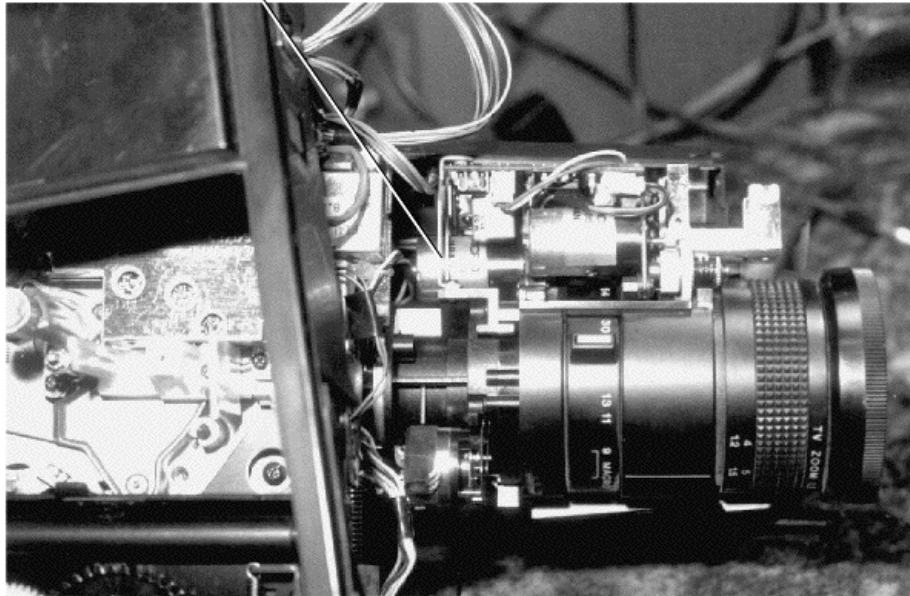
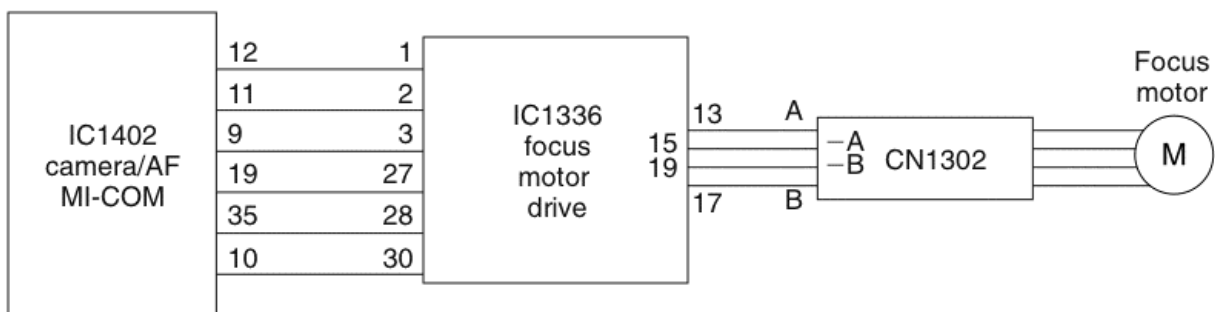

FIGURE 34-17 The focus control motor is located in the lens assembly of a VHS camcorder.
FIGURE 34-18 The 8-mm autofocus circuits.
Canon 8-mm auto focus circuits The auto focus drive signals start at the camera/ auto focus (AF)/Mi-Com processor IC1402 (Fig. 34-17). IC1402 provides a focus stop, focus power saver, focus CW and H/CCW, focus pulse, and focus reset signals to the focus motor drive IC1336. Inside IC1336 consists of a decoder and drive circuits. IC1336 drives the focus motor with an A and B signal from pins 13 and 17 from the focus motor drive IC. Pins 15 and 19 of IC1336 provide $-A$ and $-B$ focus drive signals (Fig. 34-18). A focus reset signal is fed from focus reset circuit in the lens assembly to pin 20 of IC1402.